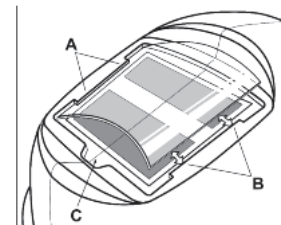

Figure 1
Replacing Front Cover Lens: Replace the front cover lens if it is damaged – cracked, soiled or pitted. Place your finger or thumb into recess (C) at the bottom edge of the cover lens and flex the lens upwards until it releases from the edges marked A and B. (Refer to figure 1).